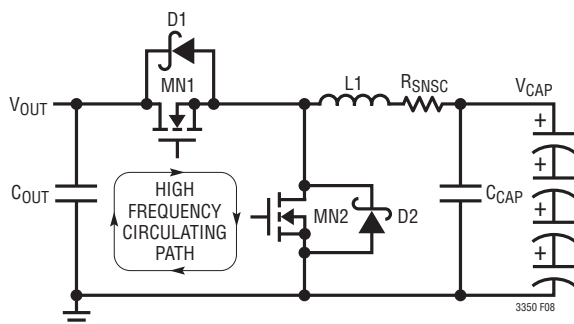

Figure 8. High Speed Switching Path
1. Keep M1, M2, D1, D2 and C_{OUT} close together. The high di/dt loop formed by the MOSFETs, Schottky diodes and the V_{OUT} capacitance, shown in Figure 8, should have short, wide traces to minimize high frequency noise and voltage stress from inductive ringing. Surface mount components are preferred to reduce parasitic inductances from component leads. Connect the drain of the top MOSFET and cathode of the top diode directly to the positive terminal of C_{OUT} . Connect the source of the bottom MOSFET and anode of the bottom diode directly to the negative terminal of C_{OUT} . This capacitor provides the AC current to the MOSFETs.